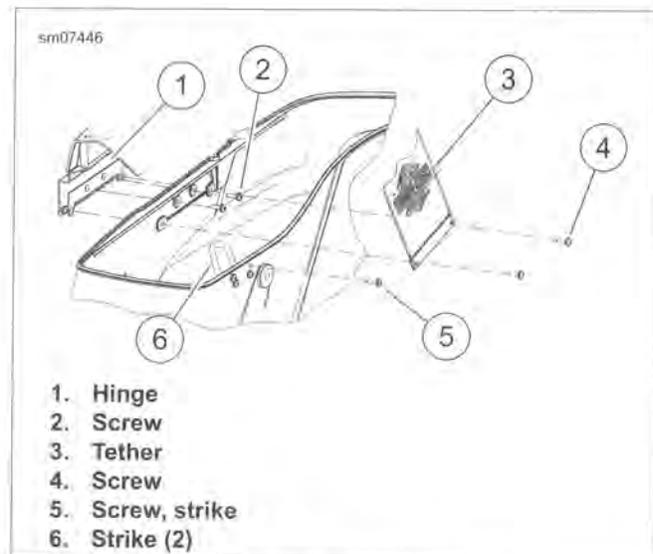
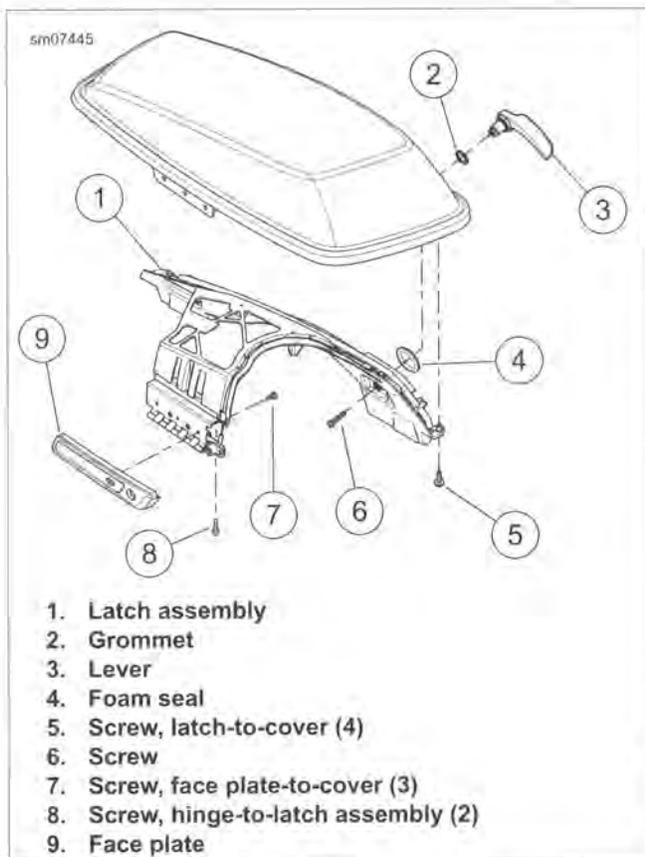

Figure 2-116. Saddlebag Hinge
Figure 2-117. Saddlebag Latch Assembly
1. See Figure 2-116. Remove four screws (5).
2. Remove strike (6).
3. Install strike and secure with screws (5). Tighten to 15-20 **in-lbs** (1.7-2.3 Nm).
3. See Figure 2-117. Remove screw (6) and latch handle (3). Do not lose grommet (2).
4. **Optional:** To ease access to screws (8), remove screws securing tether to latch assembly.
2. See Figure 2-116. Remove screws (4) securing tether to saddlebag.
3. Remove two remaining screws (2). Separate cover with latch assembly from saddlebag.
6. See Figure 2-117. Remove three screws (7).
7. Remove two screws (8). Remove hinge.
8. Align hinge and secure with screws (8). Tighten to 30-35 **in-lbs** (3.4-3.9 Nm).
9. Hold face plate (9) in place and install screws (7). Tighten to 40-45 **in-lbs** (4.5-5.1 Nm).
See Figure 2-116. Screws (2, 4) are easily cross-threaded. Use extreme care when installing.
4. See Figure 2-117. Remove two screws (7) securing hinge to latch assembly. Remove latch assembly.